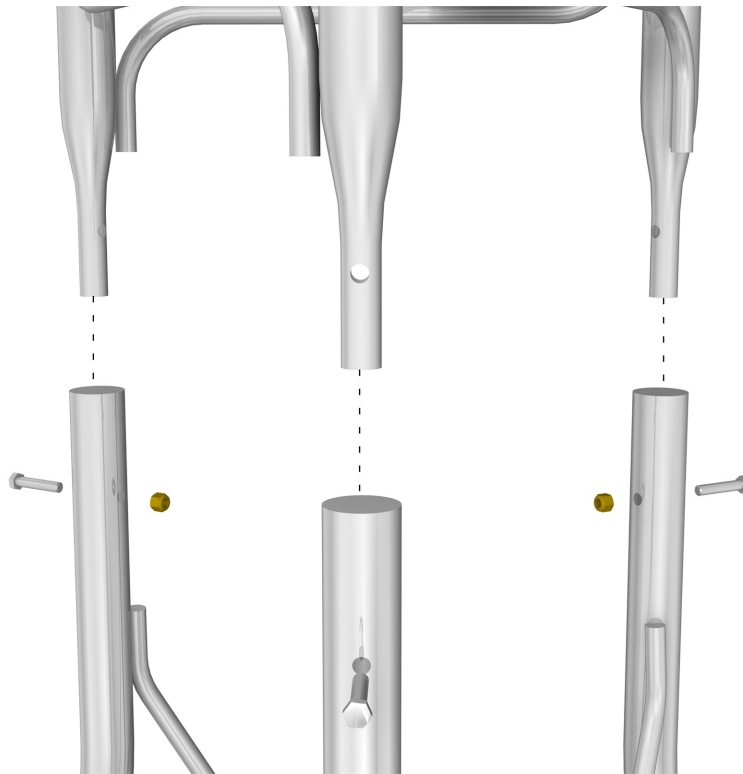

FIGURE 7-31. Attaching two mast sections
1. After installing the base and bottom tower section (Guy anchor installation (p. 34)), remove the two bolts from leg 1. Remove the top bolt from the other two legs and loosen the remaining bolt in those legs so the bottom tower section is free to hinge. Tilt the tower section to the ground and assemble the remaining tower sections by using the hardware provided with the tower. Each section is secured to the section below it with three bolts as shown in FIGURE 7-31 (p. 37). Route any cables from the upper sensors down the tower to where the enclosure will be mounted. Extend the mast to the height appropriate for the application and tighten the mast.